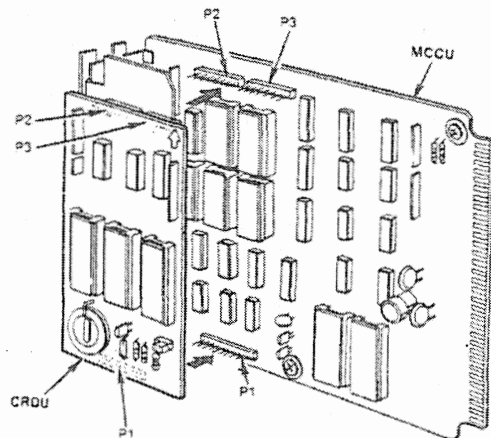

FIGURE 8
**06.31** Mount the CRDU on the MCCU if required (see Figure 8).